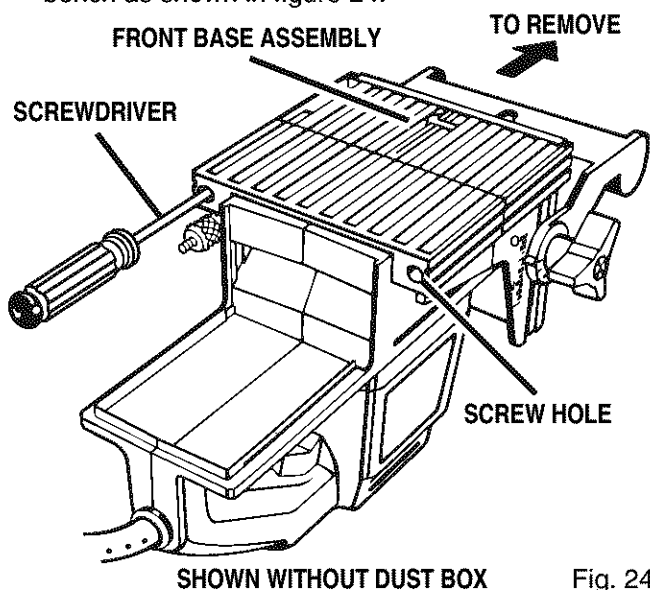

Fig. 24
- Place your plate joiner upside down on a workbench as shown in figure 24.
- Pull adjustable fence in the direction shown by the arrow in figure 24 and remove front base assembly.